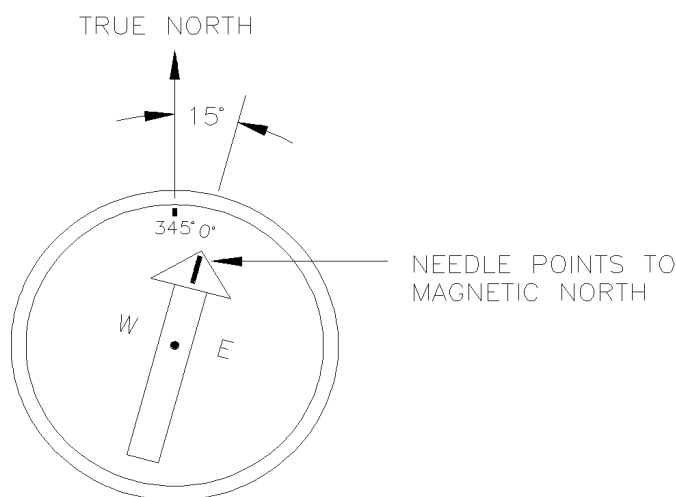
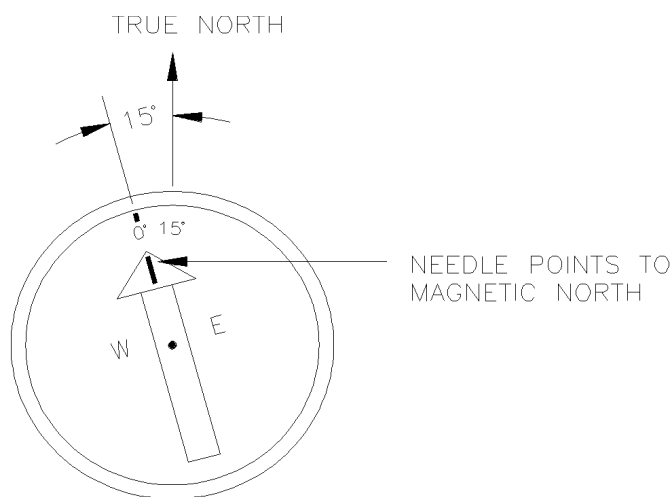

FIGURE A-2. A declination angle east of true north (positive) is subtracted from 360 (0) degrees to find true north
FIGURE A-3. A declination angle west of true north (negative) is subtracted from 0 (360) degrees to find true north
Declination angles are always subtracted from the compass reading to find True North. A declination angle East of True North is reported as positive a value and is subtracted from 360 (0) degrees to find True North as shown in FIGURE A-2. A declination angle West of True North is reported as a negative value and is also subtracted from 0 (360) degrees to find True North as shown in FIGURE A-3. Note that when a negative number is subtracted from a positive number, the resulting arithmetic operation is addition.